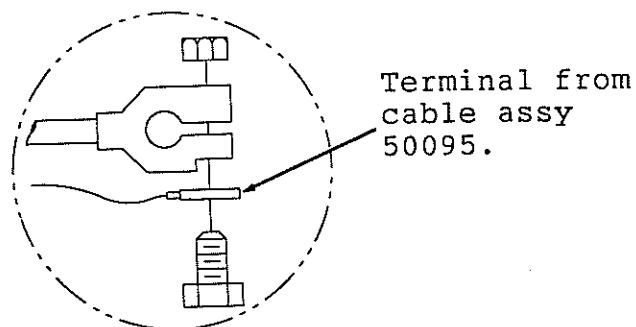

Fig. 5 - RING TERMINAL FASTENING
2. Fasten the ring terminal from the cable assembly to the battery terminal so the battery boot covers both. See Fig. 5.